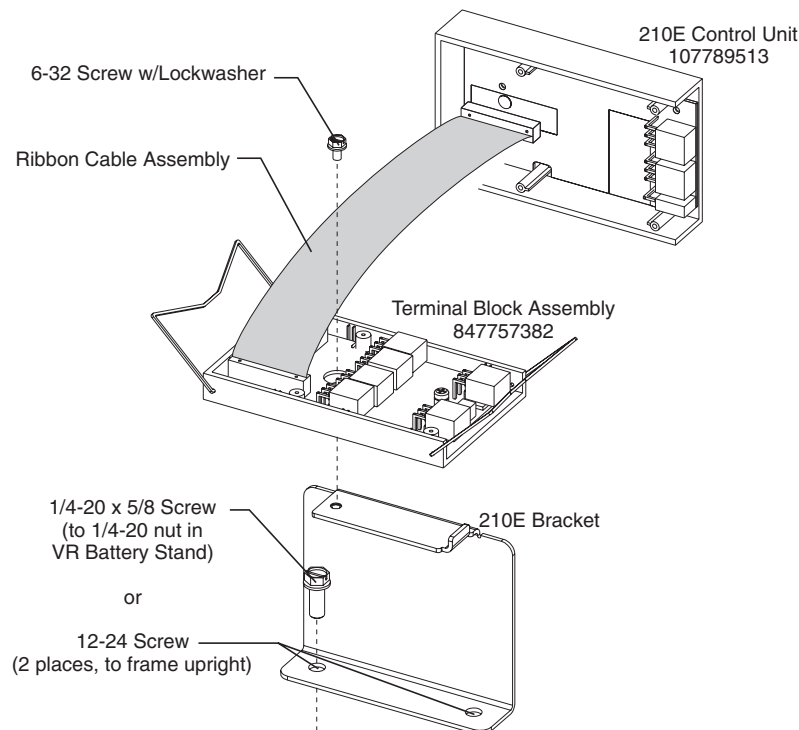

Figure 4-1: 210E Control Unit, Terminal Block, and Module Bracket
Figure 4-1 shows the 210E Control Unit, Terminal Block Assembly, and the Bracket that is used to mount the terminal block to a Lineage Power battery stand.
1. Using care to properly align the ribbon cable with J1 on the terminal block, plug the Ribbon Cable Assembly of the Control Unit into the Terminal Block. (See Figure 4-1.)